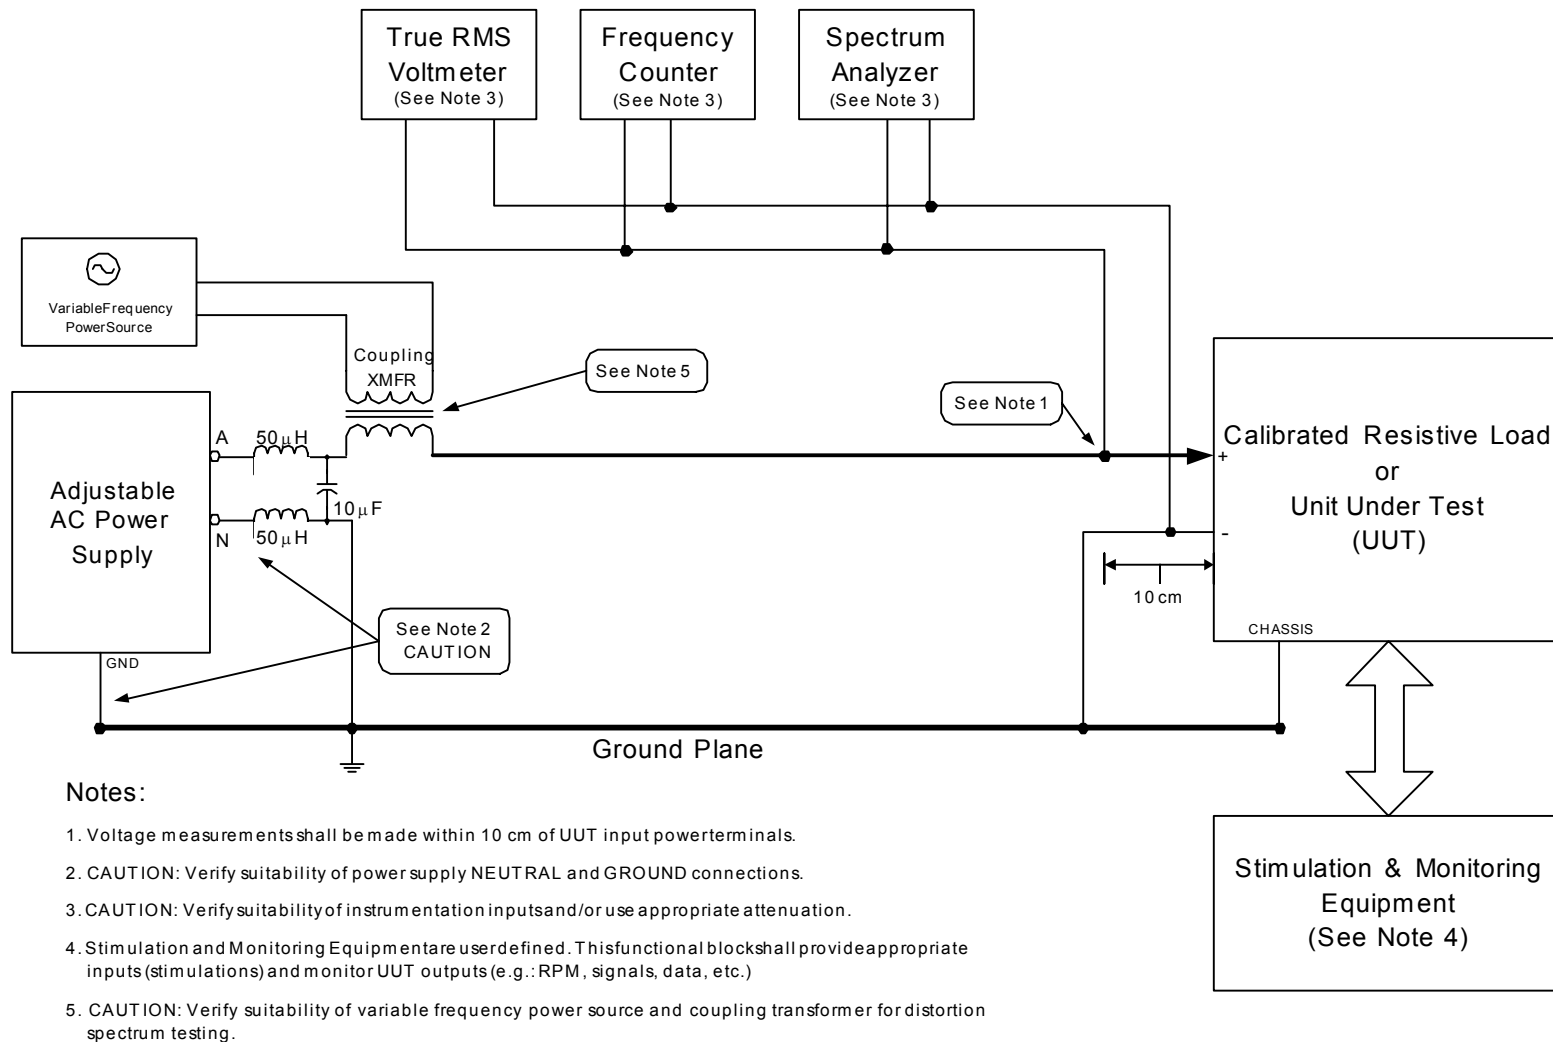

FIGURE SXF106-1. Normal operation - voltage distortion spectrum (50 Hz to 10 kHz).
- g. (2) Inductors, 50 μ H
4. Test setup. Configure the test setup as shown in figure SXF106-1. Measurements, except current, must be made within 10 cm of the input power terminals of the UUT.
4.1 Calibration (50 Hz to 10 kHz). Install a calibrated resistive load in the test setup shown in figure SXF106-1 in place of the UUT. The calibrated resistive load must be sized to draw the same current as the UUT. Turn on the adjustable AC power supply and adjust the voltage to the nominal steady state voltage of 115 Vrms (line-to-neutral) and adjust the frequency to the nominal steady state frequency of 60 Hz. Set the variable frequency power source to output a sine wave and adjust the frequency and amplitude so that the voltage distortion measured at the input to the calibrated resistive load conforms to each test condition A through G in table SXF106-II of the applicable edition(s) of MIL-STD-704. Record the settings of the variable frequency power source for each test condition.
5. Compliance test. With the adjustable AC power supply off, install the UUT and the stimulation and monitoring equipment into the test setup of figure SXF106-1. Turn on the adjustable AC power supply and adjust the voltage to the nominal steady state voltage of 115 Vrms (line-to-neutral) and adjust the frequency to the nominal steady state frequency of 60 Hz. Energize the UUT. Allow sufficient time for the UUT to warm up. Conduct a performance test of the UUT according to the utilization equipment performance test procedures to verify that the UUT is providing specified performance for normal aircraft electrical conditions.